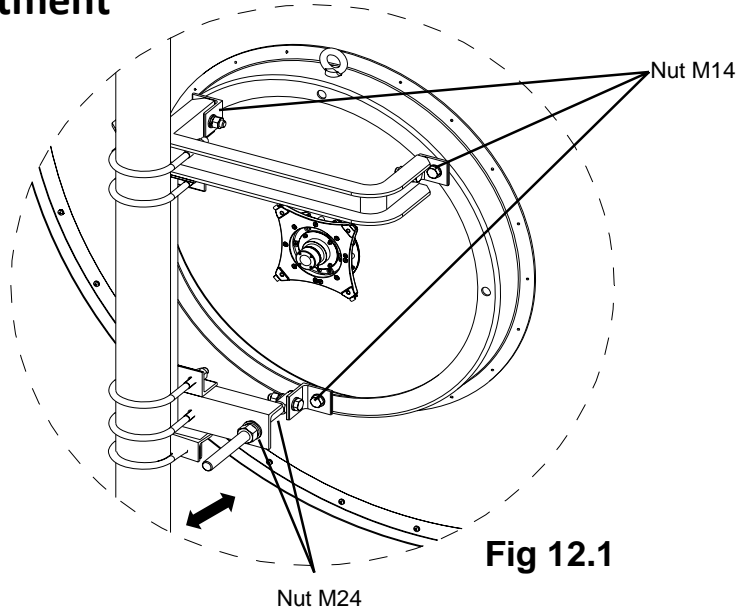

Fig 12.1
- ① Loosen the M14 Nut and bolt (shown in Fig 12.1), then slowly rotate M24 Nut clockwise or counterclockwise to make elevation adjustment.
- ② The antenna fine elevation adjustment range is from -5° to $+5^{\circ}$.
- ③ Tighten all the standard parts.